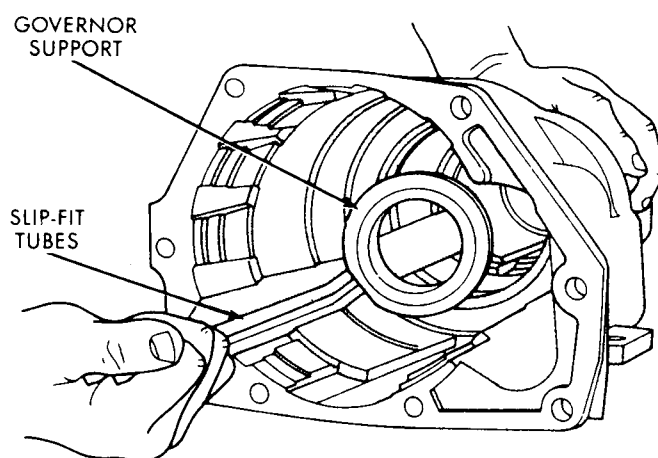

Fig. 3—Install Governor Support
(3) Install governor support (Fig. 3).